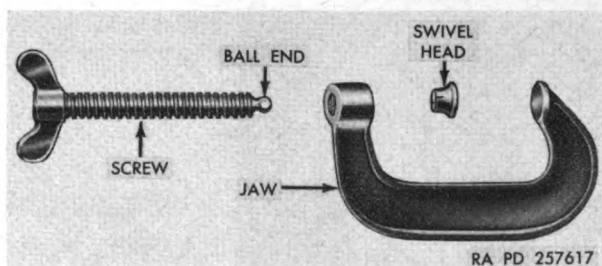

Figure 147. C-clamp, exploded view.
- (1) *C-clamps.* Keep threads of C-clamps clean and free from rust by oiling properly. The swivel head must be kept clean, smooth, and grit free. If the swivel head becomes damaged, replace it as follows: Pry open the crimped portion of the head and remove the head from the ball end of the screw (fig. 147). Replace with a new head and crimp. Oil screw threads regularly (fig. 148). For short storage, oil clamps with a light coat of engine oil and wipe them off before they are hung on racks or pins, or carefully placed in a tool box. For